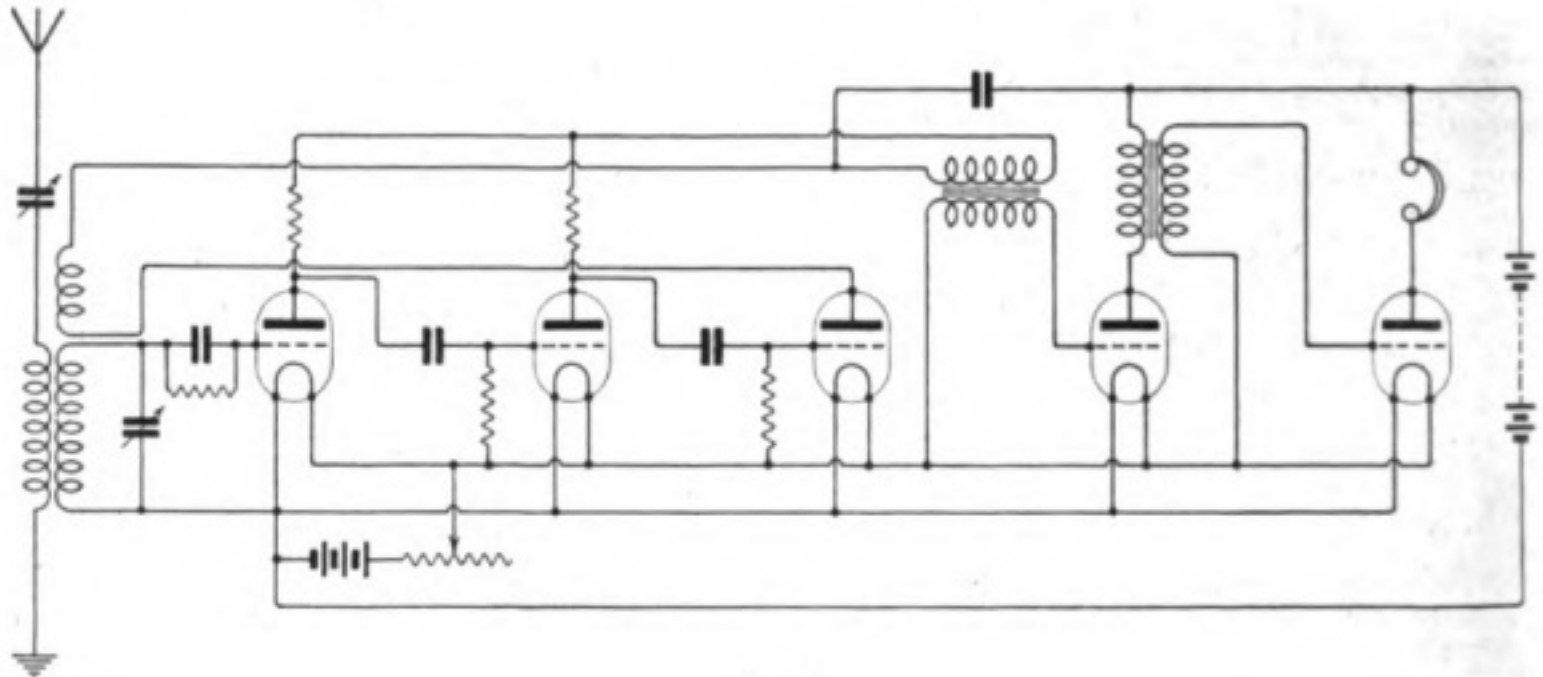
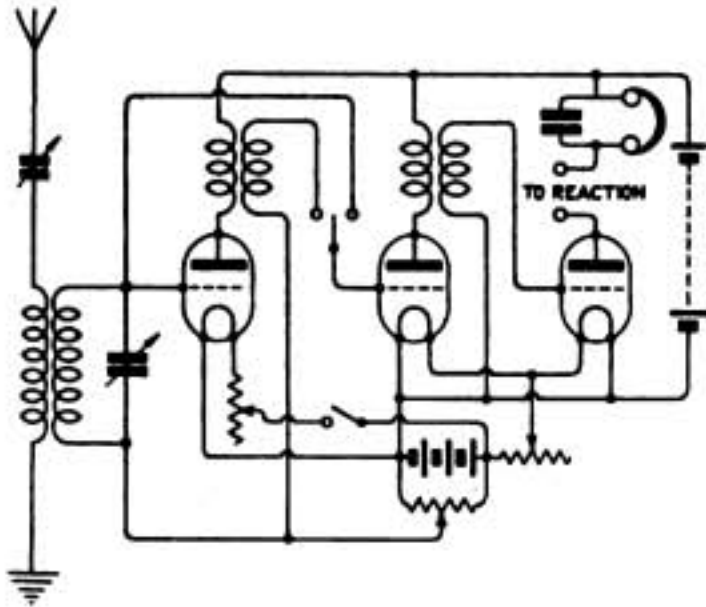
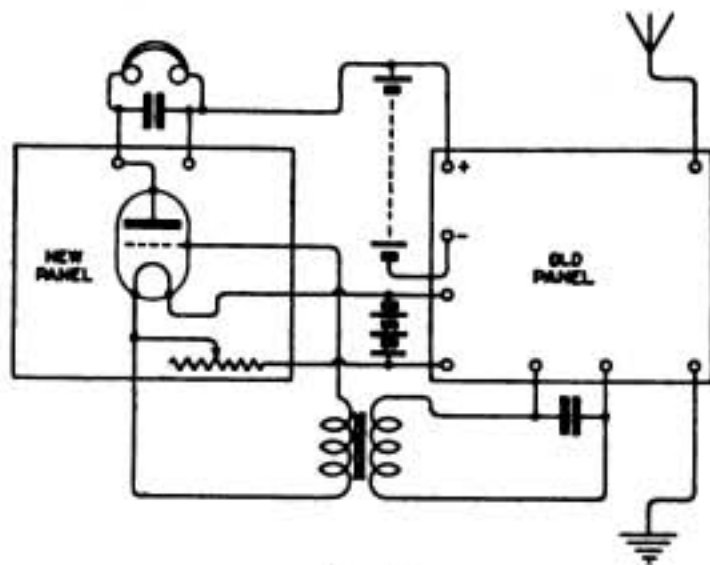
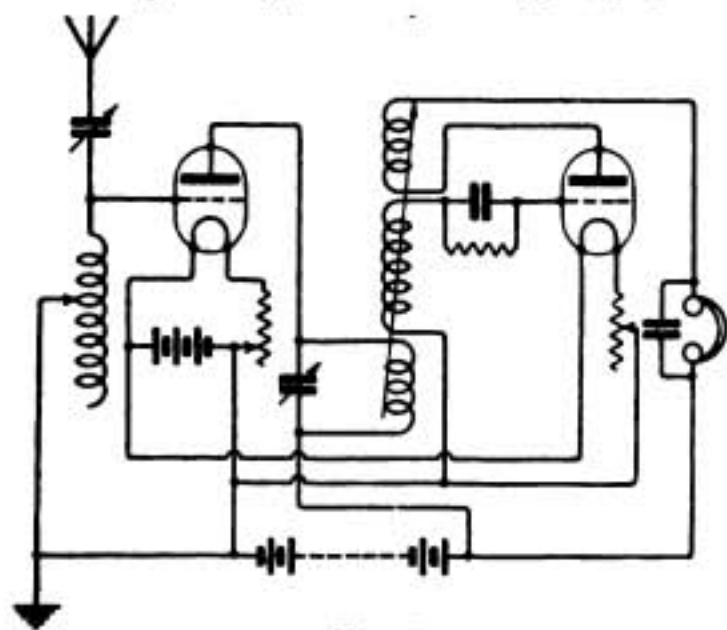

Fig. 1.
Fig. 2.
Fig. 3.
Fig. 5.
(1) You apparently wish to use a frame aerial set. If so, coils may be used to load up the frame, as many as required at any time being connected in series with it. The arrangement would not be very efficient, and we do not recommend using these coils at all. (2) Wind about 120 turns of No. 28 in a single layer on a former of the required size with tappings at 3, 6, 15, 30 and 60 turns. (3) See Fig. 3, page 31, April 1st issue. The range would be about 8,000 metres, with a 0.002 mfd. condenser.
"P.R.T." (Southport).—(1) and (3) The circuit is incorrect; see Fig. 1, page 303, June 3rd issue, and many other recent diagrams for the correct arrangement of the valves. (2) About 0.0002 mfd. for short waves. (4) Not essential, but convenient if a large range of wavelengths is to be covered.
(1) See diagram Fig. 1. (2) The set is O.K. for the purpose, except that the reaction coil should be in series with the anode resistance and not in shunt across it.
(1) Primary, 6" x 4" of No. 22, with a slider secondary 5" x 3" of No. 26, tapped at 1", 2" and 3". (2) See diagram Fig. 2. (3) No. (4) About 100 miles for good results.
(1) Generally gives increased strength of signals. (2) See Fig. 2, page 276, May 27th issue, and many similar circuits, but we should caution you that the satisfactory construction of such a set is extremely difficult without previous experience with simpler types, as there are numerous pitfalls which can only be found out by experience. (3) The increase of your aerial will not very greatly affect your wavelength except at minimum values. The wavelength can be reduced again by the addition of a series A.T.C. if necessary.
"S.W." (Portsmouth) asks how to add an amplifying panel to his present single valve panel. See diagram Fig. 3.
"W.G." (Hastings).—(1) Circuit shown is quite correct. Wavelength maximum probably about 3,500. (2) See Fig. 5, page 124. (3) The telephones may be used without change. (4) Circuit should be efficient at all wavelengths.
(1) and (2) We cannot say, but we should imagine that no steps would be taken to prohibit the use of such an excellent property as reaction in receiving circuits, though every effort should be made to prevent the use of circuits in which the reaction coil is coupled back directly to aerial inductance. Reradiation is reduced by adopting intervalve H.F. coupling and arranging the reaction between grid and plate circuits of the second valve. See circuit Fig. 5. (3) See circuit Fig. 3, page 436,
or Fig. 5, page 437, July 1st issue, omitting reaction coil in each case. (4) Without going deeply into your figures we would point out that any calculations of this nature are perfectly useless with regard to the determination of the values of loading inductances for use in amateur circuits. For instance, without calibrated apparatus it is not easy to determine the capacity or inductance of an aerial, but is comparatively simple to conduct a few experiments to find the amount of wire necessary to load to a given wavelength.
(1) O.K., except that for short waves the A.T.C.
should be in series with the A.T.I. (2) O.K. (3) See Fig. 1, page 119, issue for April 22nd.
(1) The only easy way would be the addition of a note magnifier, as in Fig. 2, page 336, but a new set on the lines of Fig. 5, page 124, would give much better results. (2) You should get stations as in question 4, with the altered set. There is probably very little to be got at present. (3) The set and aerial are of somewhat poor quality. You are not likely to get strong signals on a crystal in your district. (4) Birmingham and Manchester will be the nearest stations, neither of which you are likely to get very strongly on a crystal set.
(1) Yes, these coils and transformers may be used as components for building up the circuit for wavelengths beyond 1,500 metres. You may find it easier to adopt resistance capacity valve coupling as shown in Fig. 2, page 294, June 3rd issue. (2) For suitable circuit see Fig. 1, page 58, or Fig. 1, page 37, in April 8th issue.
The word "Regenerative" has usually the same meaning as reaction, and in the tuner referred to both grid and plate circuits are tuned by means of variometers, these adjustments facilitating the setting up of oscillations. The coupling back of the plate circuit to the grid circuit is effected by the relative dispositions of the various coils shown from Fig. 2, on page 283.
If you have fair experience in the manipulation of wireless apparatus you might adopt circuit tuning Fig. 1, July 1st issue. This circuit is described more fully on page 37, April 8th issue, where the values of the various condensers are shown. If you are a beginner we would advise you to follow the articles which are appearing fortnightly in this journal on Experimental Station Design. You will easily be able to embody your tuner in the making of the sets described.